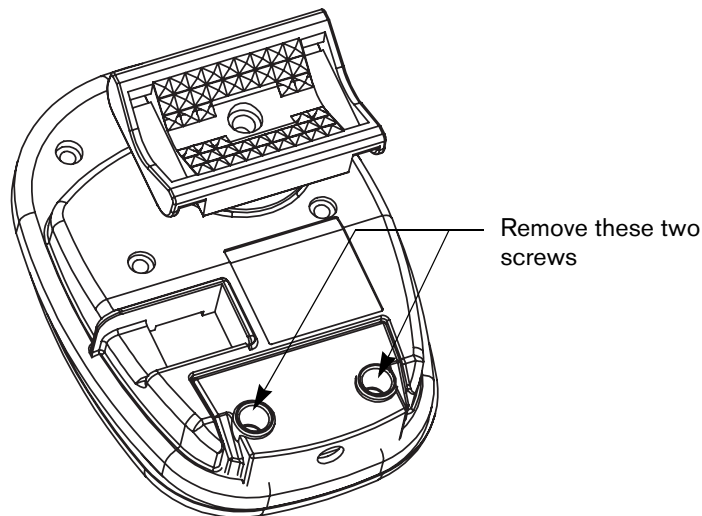

Figure 18: Remove screws holding headphone jack
1. Remove the two screws at the bottom of the controller with a screwdriver. See Figure 18.